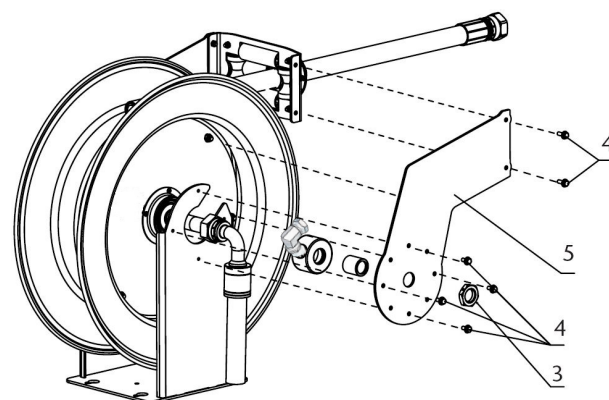

Figure 10
7. Remove screws (4) and arm (5) (figure 10)